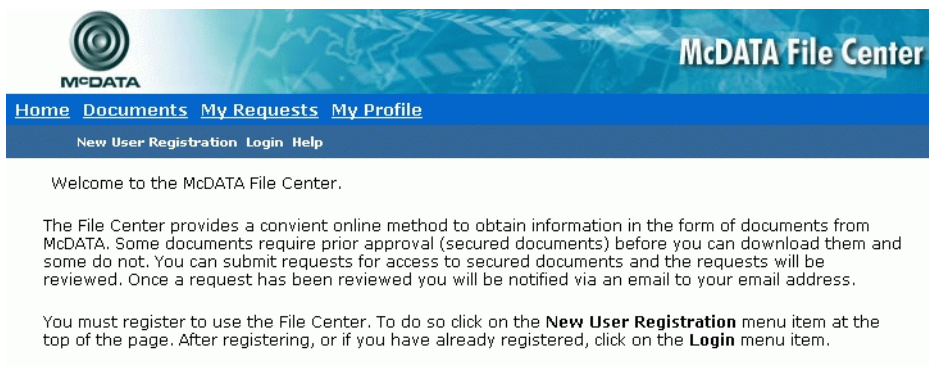

Figure 4-32 McDATA File Center Home Page
- Obtain the new firmware version from the McDATA File Center. At a PC with Internet access, open the File Center home page (Figure 4-32). The uniform resource locator (URL) is <http://central.mcddata.com>.